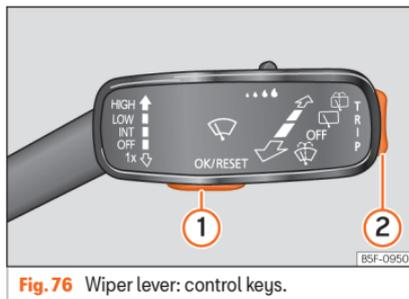

Fig. 76 Wiper lever: control keys.
As long as a priority 1 »» page 77 warning is active, it will not be possible to access any menu. Some warnings can be confirmed and hidden with the button »» Fig. 76 ①.